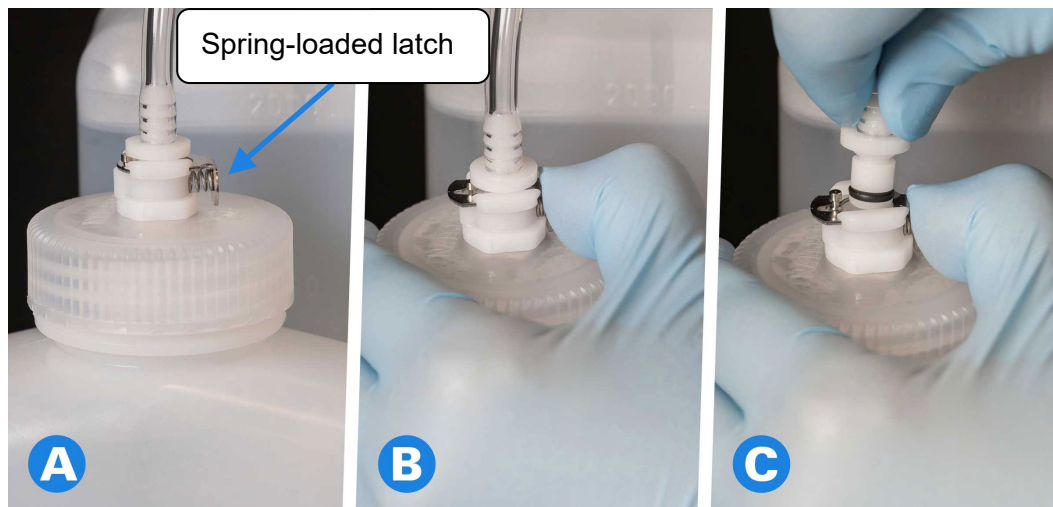

Figure 79. Visual aid for how to remove the tubing connector from the water source bottle, humidifier source bottle, and the waste container.
The procedure below describes the process of disconnecting the tubing fitting from the bottle caps for the water source bottle, humidifier source bottle, and waste container, as demonstrated in Figure 79.
1. Using your thumb, push in the spring-loaded latch at the side of the connector (Figure 79, Panel A). Figure 79, Panel B shows how the latch will look when it's properly pressed.
2. While holding in the latch, grasp the tubing at its connector and pull up to remove the connector from the bottle cap (Figure 79, Panel C).